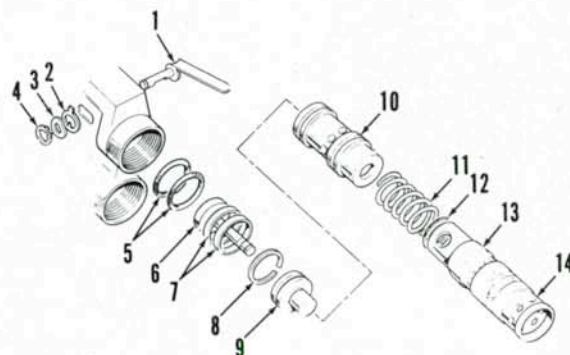

Fig. 347—Exploded view of remote valve quick coupler assembly.
To disassemble remote valve quick release couplers, remove rubber dust caps from couplers. Remove snap ring (4—Fig. 347), spring washer (3) and tab washer (2) from coupling lever shaft (1). Turn coupling lever to open position and withdraw it from coupler man-